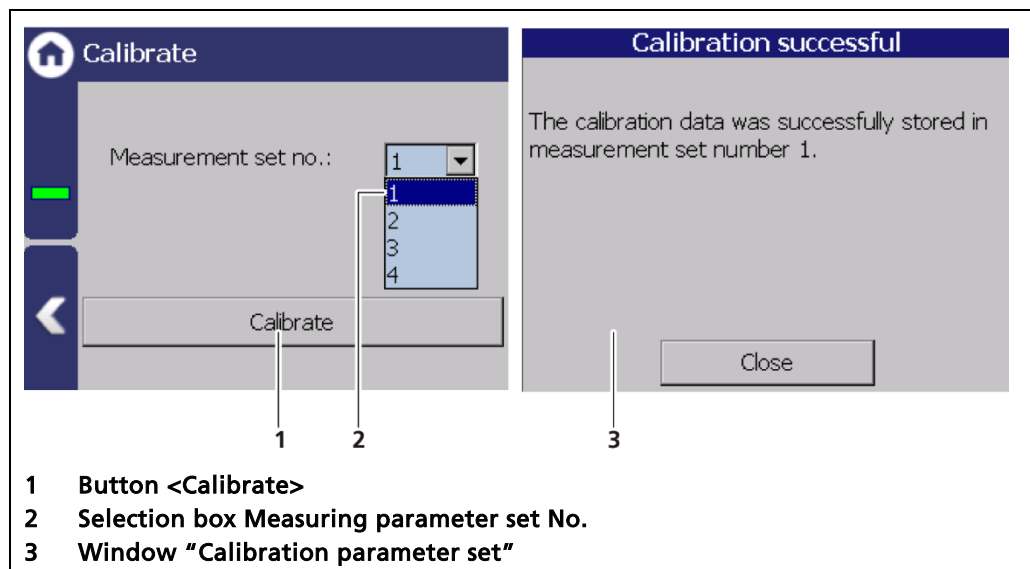

Fig. 93 Calibration
The active measuring parameter set is displayed in the selection box Measuring parameter set No. (Fig. 93, item 2).
1. Click on the button <Calibrate> (Fig. 93, item 1) in order to take over the current calibration settings in the selected measuring parameter set (Fig. 93, item 2).
- ▶ A new window appears with the message "Calibration successful" (Fig. 93, item 3).